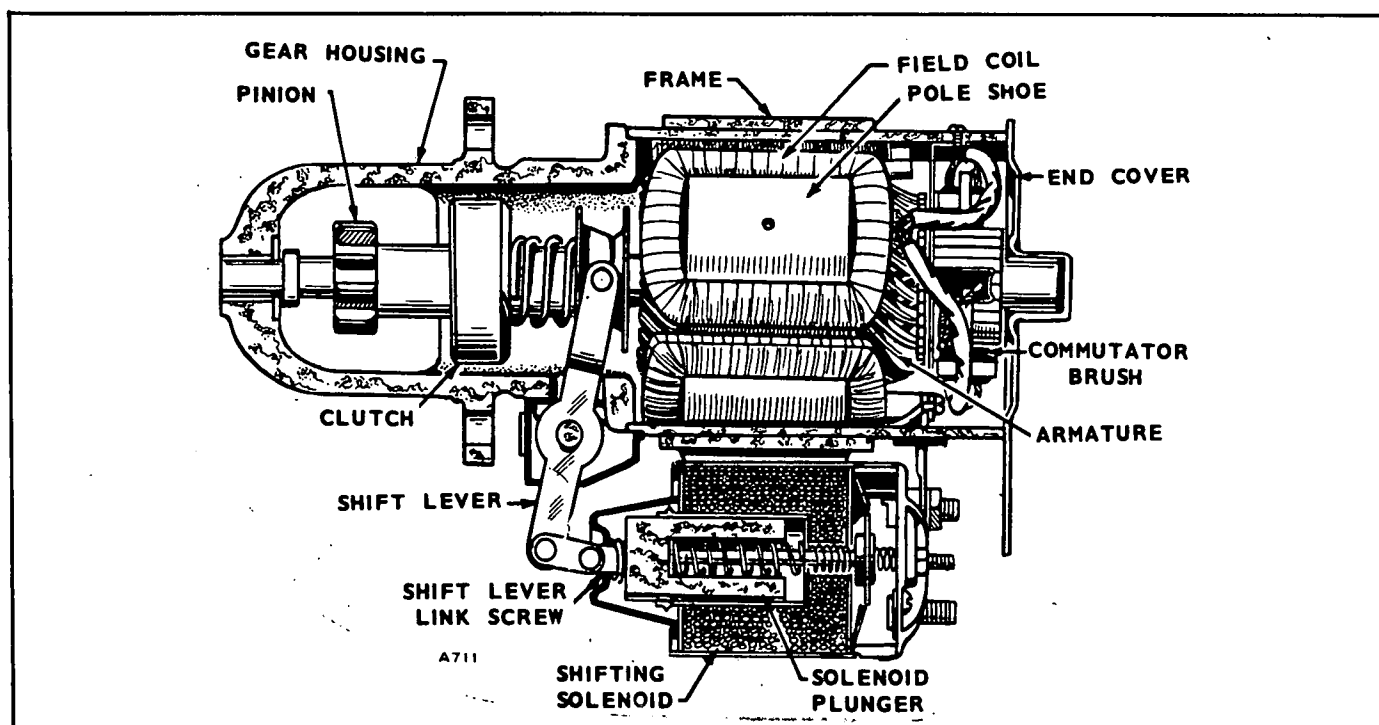

FIGURE 36. STARTING MOTOR
1. Remove connections to controls and battery at the shifting solenoid. See Figure 36.